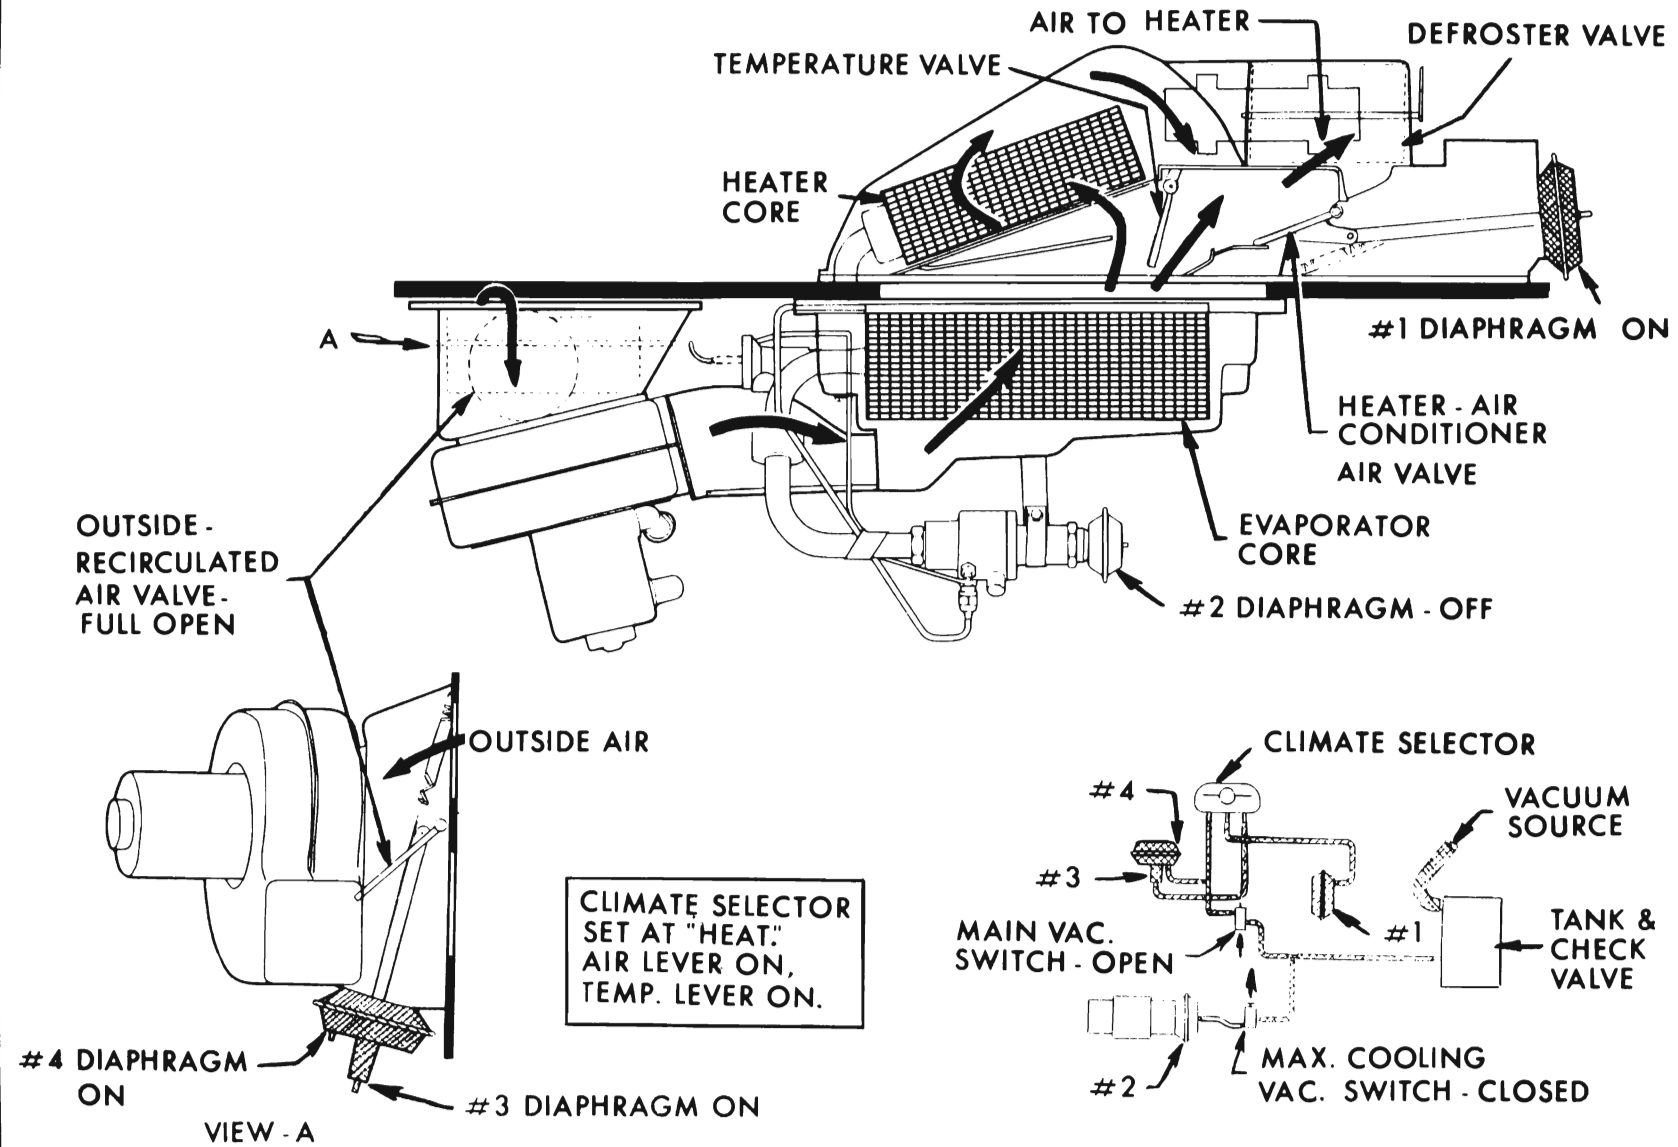
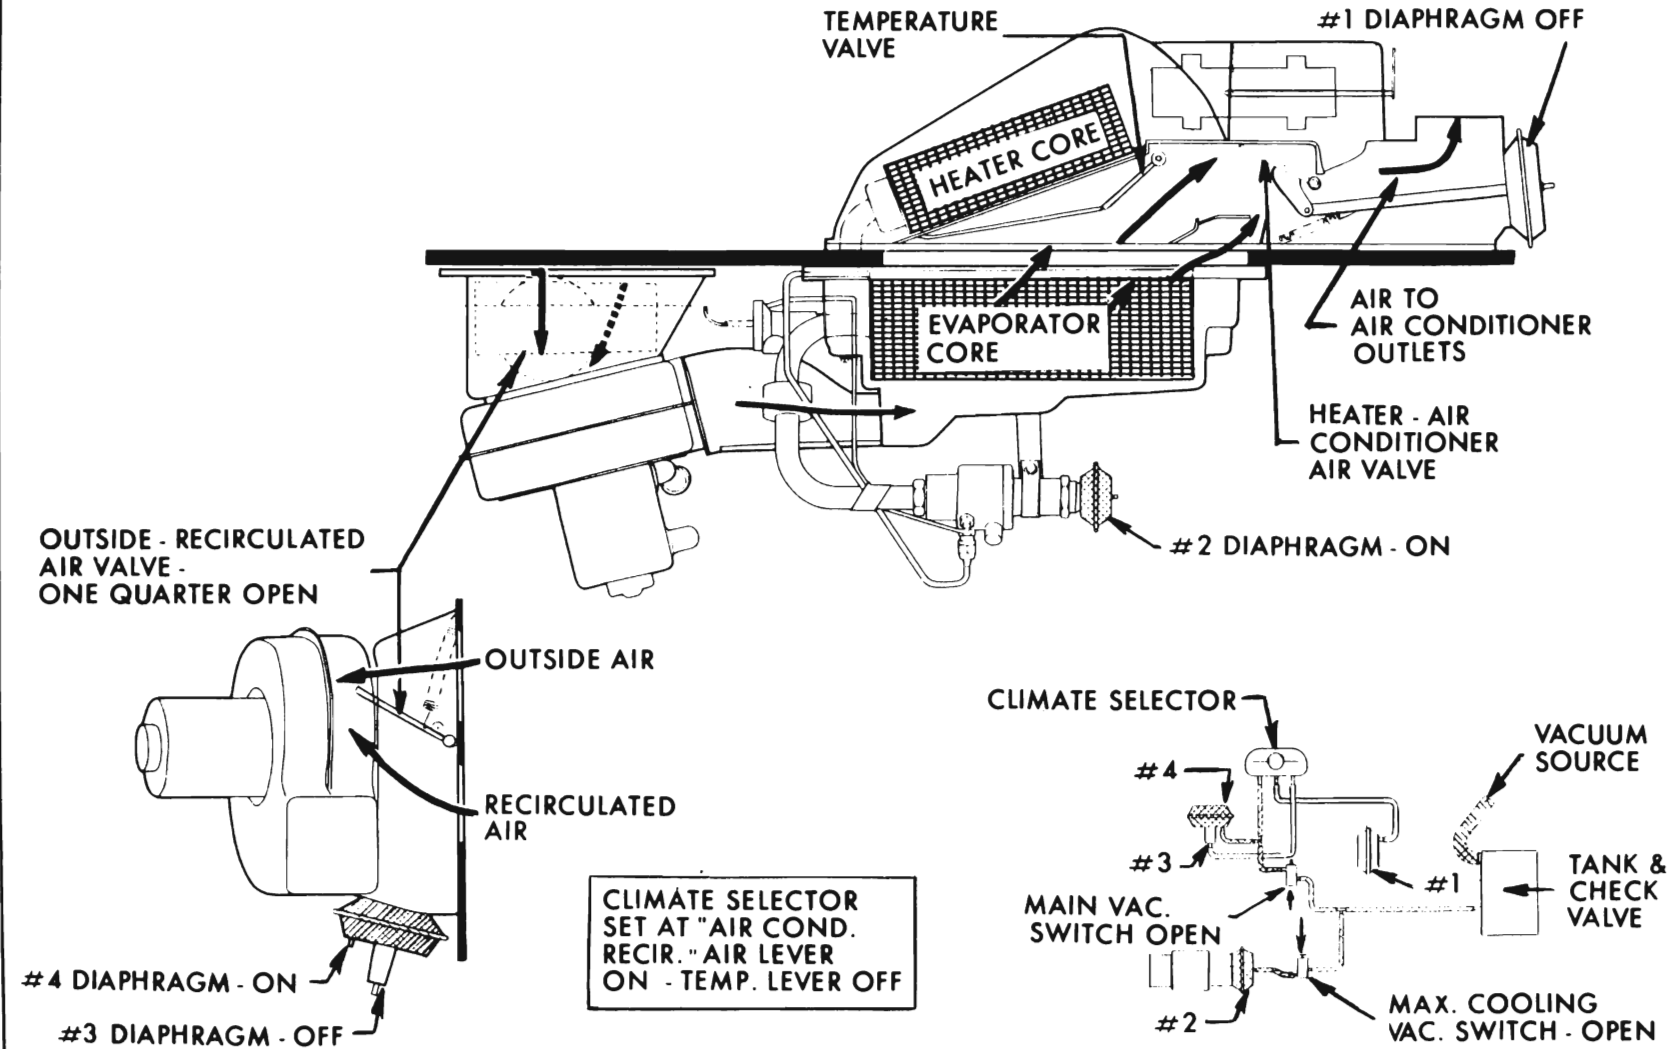

Figure 11-68—Air Conditioner Off, Heat On—4400-4600-4800 Series
Figure 11-70—Air Conditioner Maximum, Heat Off—4400-4600-4800 Series
The outside-recirculated air valve is normally held closed by a spring. When vacuum is applied to the #4 section of the dual vacuum diaphragm it is positioned at the recirculated or one quarter open position. See Figure 11-70. When vacuum is applied to both the #3 and #4 sections of the dual diaphragm the air valve is pulled to the full open or outside air position. See Figure 11-68.
**2. Air Conditioner Off, Heat On** - The climate control is set at "HEAT", the "AIR" and "TEMP" lever moved forward from the "off" position for heater operation. The main vacuum switch is opened which allows vacuum to be present at the #4 diaphragm and climate control. The climate control allows vacuum at the #1 and #3 vacuum diaphragms. Thus, the outside - recirculated air valve is full open and the heater-air conditioner air valve is positioned to direct air through the heater outlets. See Figure 11-68. The first movement of the "Temp" lever wire opens the manual water valve to allow water to flow through heater core, positions the temperature valve to direct some air through the heater core and closes the maximum cooling switch (which has no effect on operation of heater). Full movement of the "TEMP" lever provides maximum heat by positioning the temperature valve for all air to pass through the heater core.
The outside-recirculated air valve is full open as vacuum is present at #3 and #4 diaphragm. See Figure 11-70. The compressor clutch is engaged and the blower is set on low-low blower speed when the "air" lever is in the first detent from off. Further movement of the "Air" lever increases blower speed to Low, Medium and High. The suction throttle valve is set at maximum cooling as vacuum is present at its vacuum diaphragm.
**5. Air Conditioner Maximum, Heat Off.** The Climate Control is set at "Air Cond Recir." Air lever full on and the "Temp" lever off. The outside-recirculated air valve is set at the one-quarter open position by having vacuum applied only to the #4 section of the dual diaphragm. See Figure 11-70. This allows 1/4 outside air and 3/4 recirculated air to mix and be directed to the evaporator. With Temp lever off, the suction throttle valve is set at maximum cooling and no air is directed through the heater core.